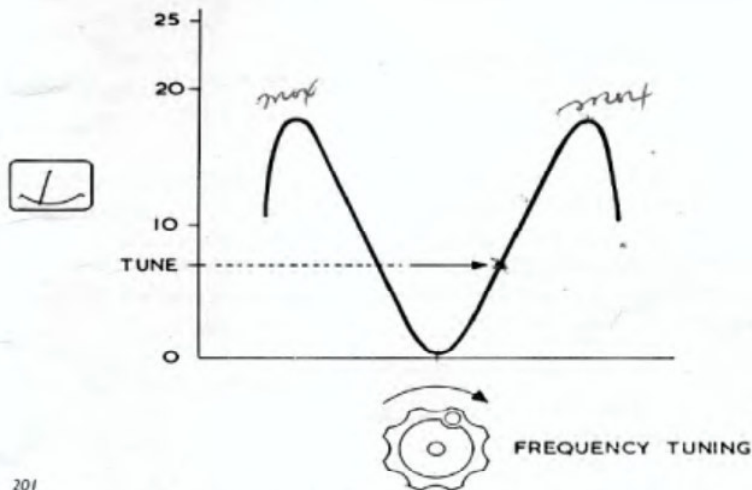

Fig. 2.2 Tuning Characteristic.
Tuning Characteristic	Fig. 2.2
- (3) Slowly tune through the input signal. It will be found that two maxima are indicated by the meter - one below and one above the carrier frequency. These maxima are separated by a central point of minimum response at which the local oscillator of the Deviation Meter coincides in frequency with the carrier of the source under test. See Fig. 2.2.